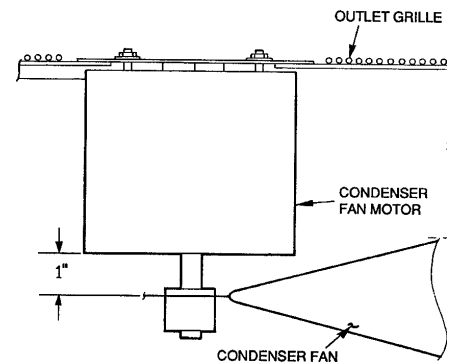

FIGURE 10
2. Adjust fan height as shown in *Figure 10*.
Refer to Troubleshooting Tables and **Figure 10** for additional information.